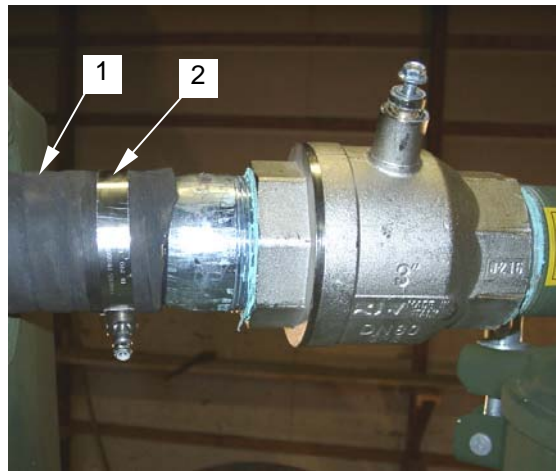

Figure 5. Upper Air Hose and Hose Clamp
11. Connect upper air hose (**figure 5, item 1**) on to the hose fitting.
12. Slide hose clamp (**figure 5, item 2**) into place and tighten.